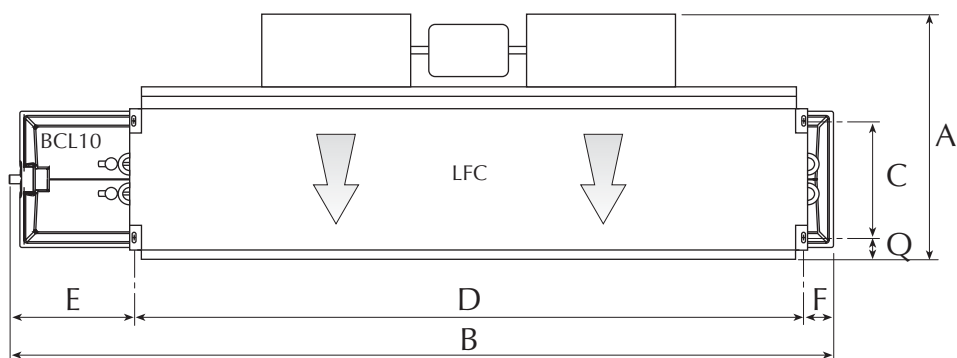

fig.5
- Use wall plugs (not supplied) for fixing to the ceiling as indicated in Fig. 5.*